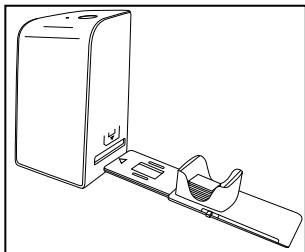

Figure 2
- ◆ Push the slide magazine **6** into the slot **4** on the right with the viewing window at the front. Ensure that the triangle marking is at the front and visible (see figure 2).